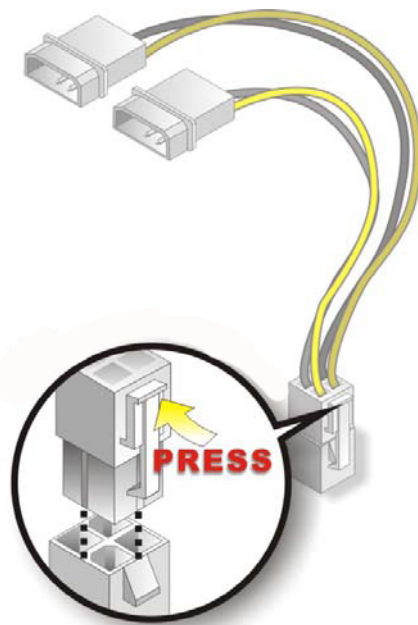

Figure 5-11: Power Cable to Motherboard Connection
Step 2: **Connect the Power Cable to the Motherboard.** Connect the 4-pin (2x2) Molex type power cable connector to the AT power connector on the motherboard. See Figure 5-11.